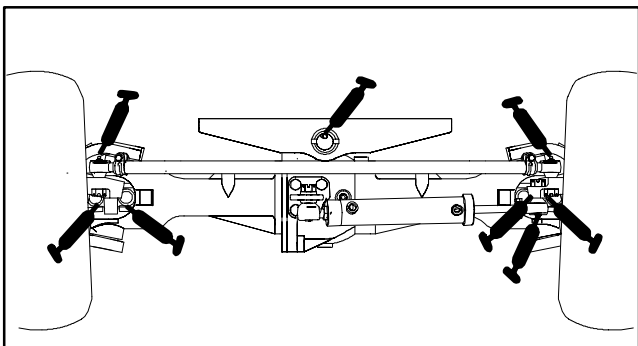
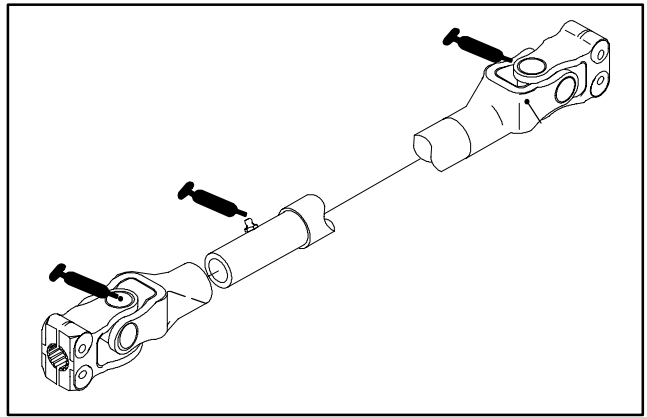

Figure 16
Figure 17
4 Wheel Drive Models only—Steering cylinder ball joints, Rear axle tie rod (2), Rear axle pivot (1), Double Cardan joints (2 ea. side) (Fig. 16) and Rear Drive Shaft (3) (Fig. 17).